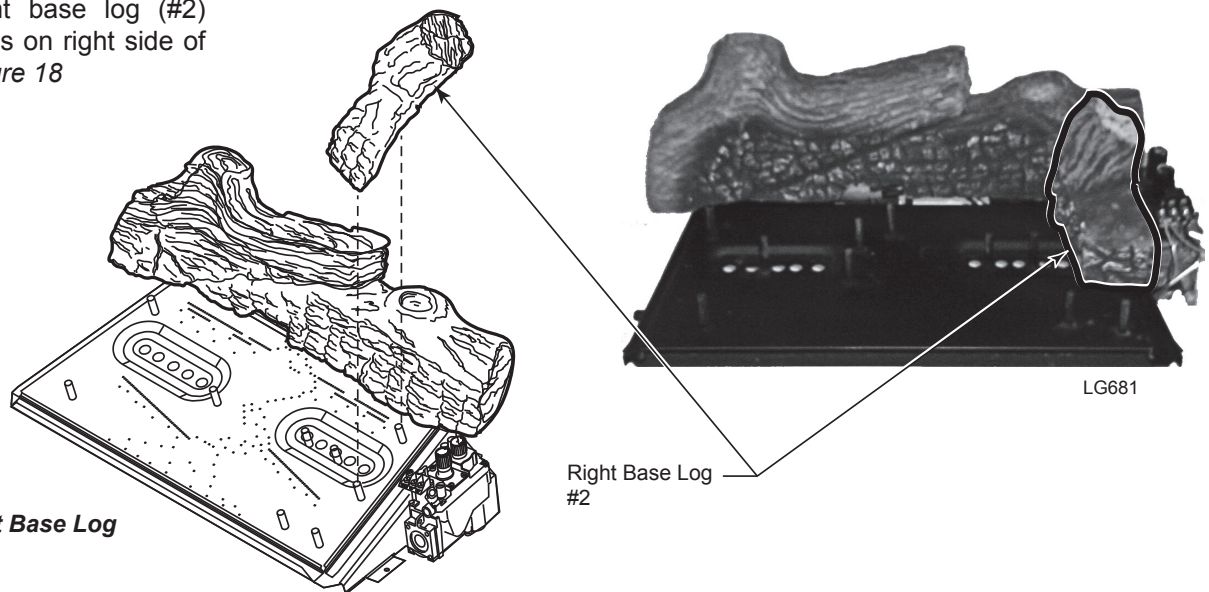

Figure 18 - Place Right Base Log
- 2. Place right base log (#2) on two pins on right side of grate. *Figure 18*